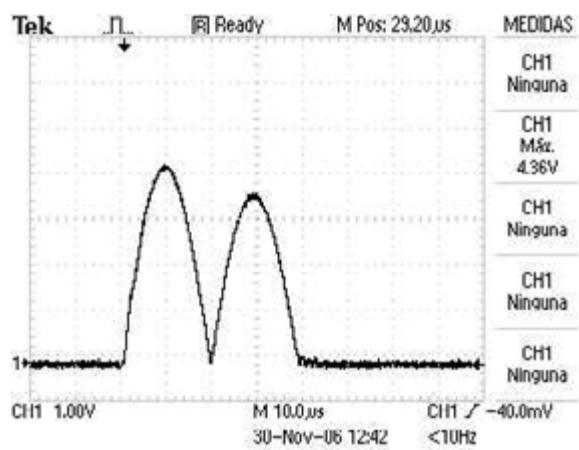

Fig. 5: Program 15
- Press the exposure switch; one resonance pulse is obtained, see \(Fig. 5 / p. 53\).